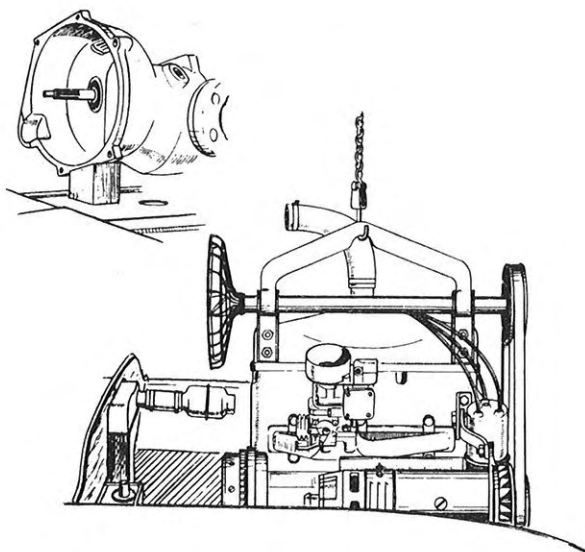

Fig. 10. Lifting out engine. Note the block under transmission
mission with a 90 mm (3 1/2 in.) high block of wood, see Fig. 10.
1. Lift engine into car using the lifting hook 93-111, see Fig. 10.